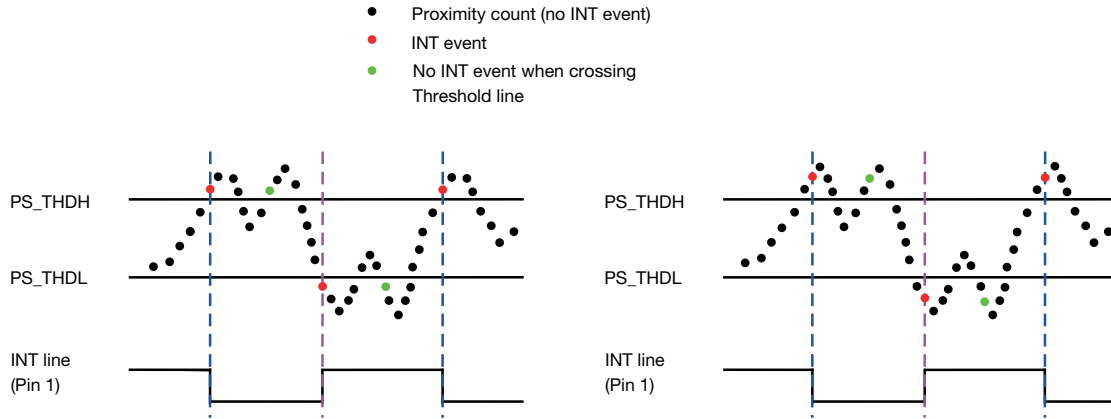

Fig. 37 - The Behavior of the INT Line (pin 1) Using Logic Mode With PS\_PERS = 1 (left) and PS\_PERS = 2 (right)
- The interrupt line is pulled low when the proximity counts cross the high threshold, as indicated by the blue line in Fig. 37
- The interrupt line is pulled high when the proximity counts cross the low threshold, as indicated by the purple line in Fig. 37
- PS\_PERS determines the event number after crossing the threshold that triggers the interrupt, as shown in Fig. 37
- Consecutive high threshold events cannot be triggered until the proximity count crosses the low threshold first and vice versa, as shown by the green circles in Fig. 37